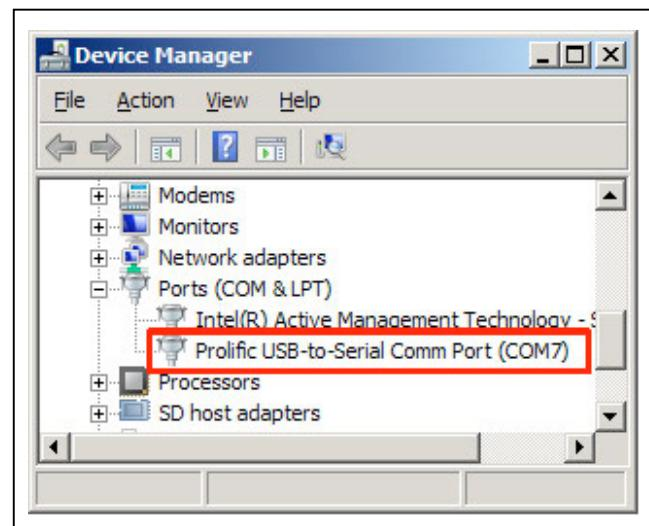

Figure 1. MAX66300 EV kit Virtual COM Port
- 4) The MAX66300 EV kit uses both the Prolific PL-2303HxD and a MAXQ610 microcontroller to provide SPI or UART connectivity to the MAX66300 device. Verify correct installation of the virtual COM port by selecting **Control Panel**→**System**→**Hardware**→**Device Manager** and expanding the **Ports (COM & LPT)**. If the driver installed properly, the “Prolific USB-to-Serial Comm Port” lists as in Figure 1. Note that your COM port number can be different.